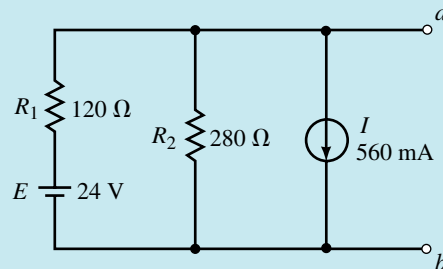

FIGURE 9–39
- Step 3:** After zeroing the sources, we have the network shown in Figure 9–40.